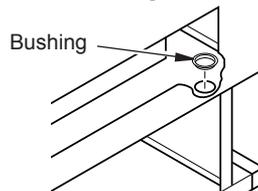

Figure 15 - Installing Bushing
5. Install one plastic bushing provided in blower kit into the 1 1/2" hole in left rear of firebox floor. Access hole through rectangular opening in rear panel (see Figure 15).